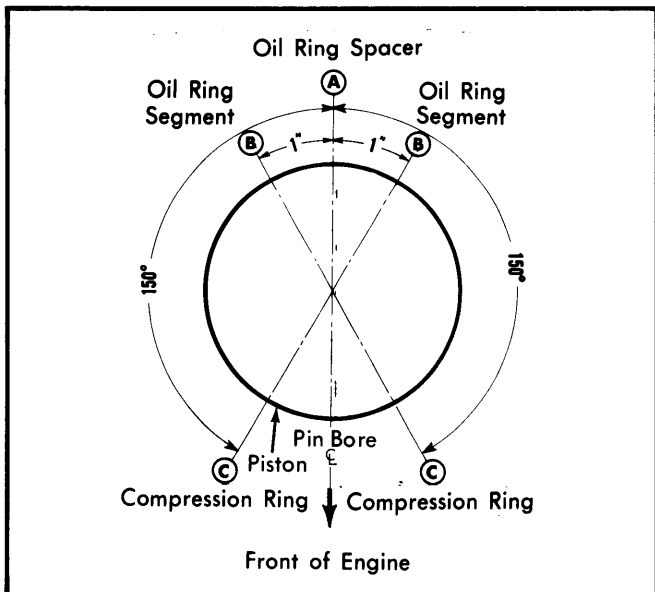

Fig. 5 Piston Ring Gap Spacing
**Installation** — 1) Oil piston rings and cylinder walls with light engine oil. Ensure that ring gaps are properly spaced on piston and install ring compressor on piston. See Fig. 5.